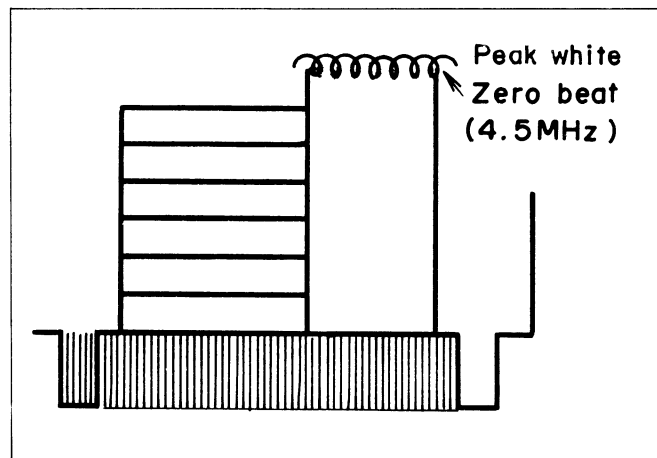

Fig. 5-56. Deviation set waveform
6. Next, referring to Fig. 5-56, tune the output of the high-frequency generator to 4.5MHz and adjust R60 (Deviation) so that zero beat is obtained at the peak white of the combined waveform on the oscilloscope.